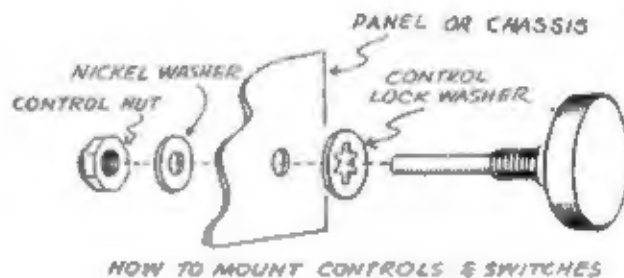

Fig. 2
- () 5. Position the 5K control, H, as shown. Use a lockwasher between chassis and the control bushing as shown in Figure 2. Use no nickel washer for this control.
- () 17. The panel may now be assembled to the chassis. Stand the chassis on its rear apron. Lay the panel on the front apron and align the holes. Insert the 100K ohm voltage output control, with a control lockwasher on its bushing, through the left hand hole. Add a flat nickel washer and nut, but do not tighten. (See Fig. 2)